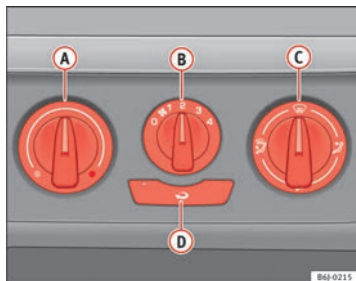

Fig. 100 Heating controls on the dash panel
- Turn the temperature selector **(A)** ⇒ fig. 100 anti-clockwise.
- Turn the temperature selector **(A)** ⇒ fig. 100 clockwise to select the desired temperature.
- Turn the temperature selector **(A)** ⇒ fig. 100 clockwise to reach the maximum temperature.
- Turn the temperature selector **(A)** ⇒ fig. 100 to the heating area. ▶